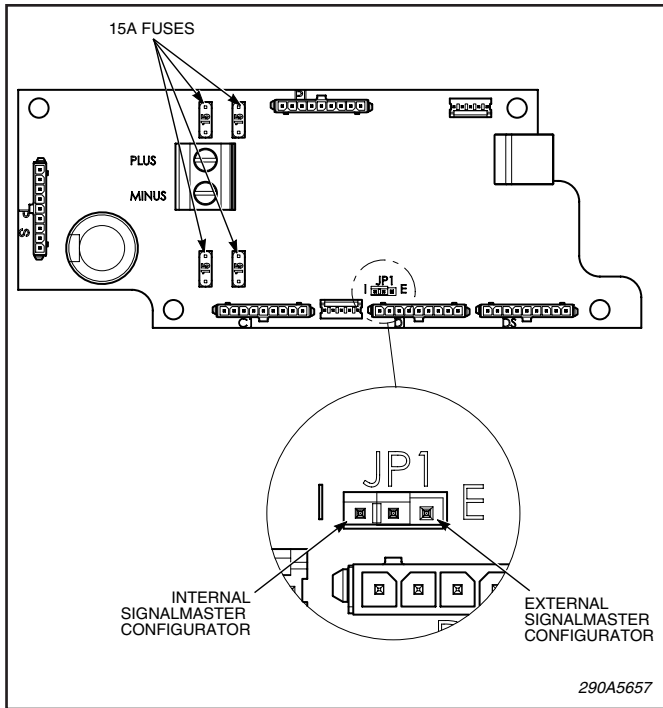

Figure 2.
To configure the lightbar for INTERNAL SignalMaster operation, see figure 2 and refer to paragraph V.6.a, PCB Controller replacement. Move the jumper from the "E" position to the "I" position.
H. *Fuse Replacement (see figure 2).*